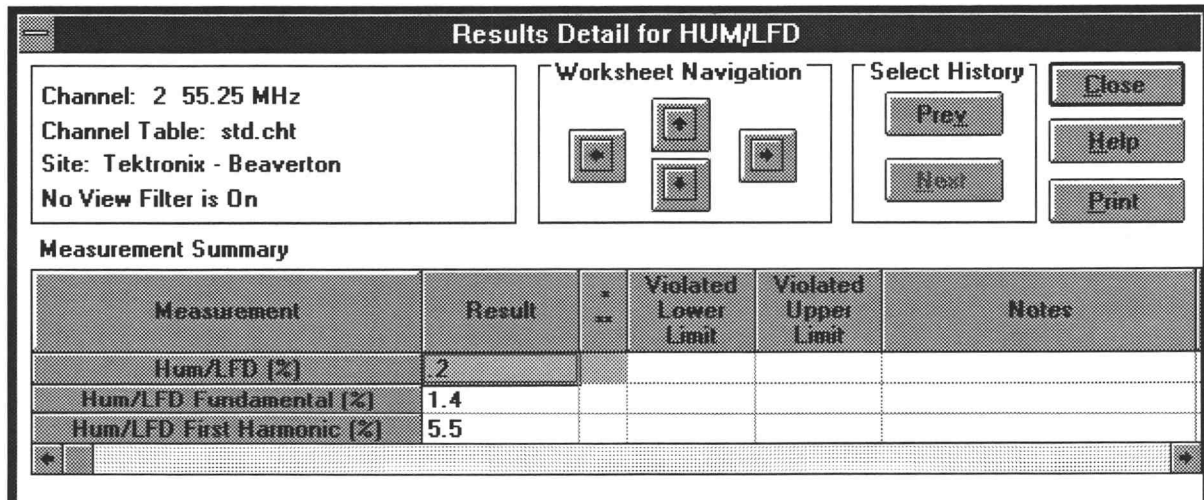

Figure 6-1. The Results Detail dialog box for the Hum/LFD measurement.
2. Choose the Results command button on the Button Bar; or click on the cell with the **right** mouse button; or, from the View menu, choose Results Detail. The Results Detail dialog box is similar to Figure 6-1.